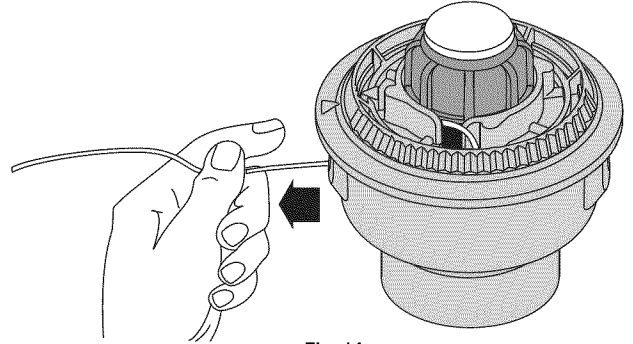

Fig. 14
6. Pull the line from the outer spool until the line is tight against the inner reel (Fig. 14).